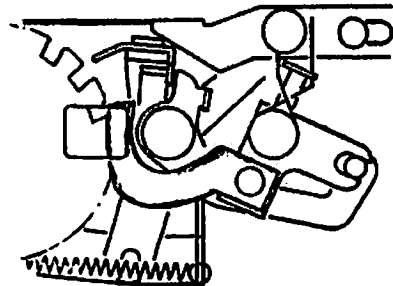

Fig. 145
- 2) Release lever comes off from Counter dividing device and Red signal appears as shown in Fig. 145.